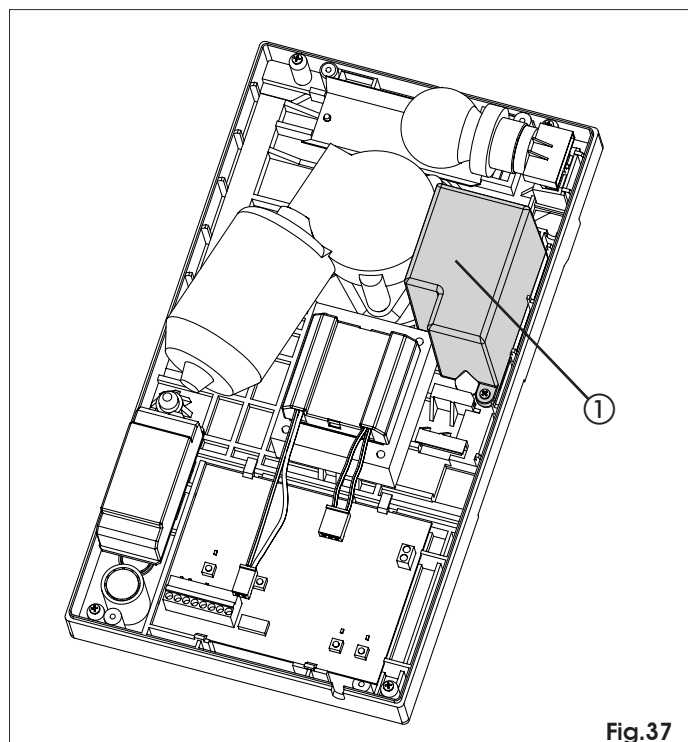

Fig.37
The buffer battery kit will activate the automated system in the event of a power cut. The batteries are housed inside the operator (Fig. 37 ref. ①) fastened by a supplied screw. To install, consult the specific instructions.